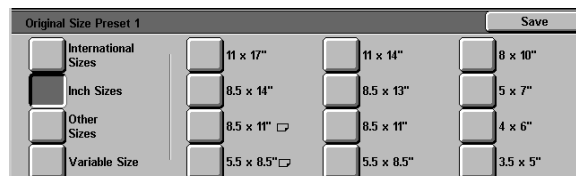

Figure 69: Original Size Presets screen (with Inch Sizes option selected)
- Touch the **Inch Sizes** button and touch one of the standard US sizes (Figure 69)